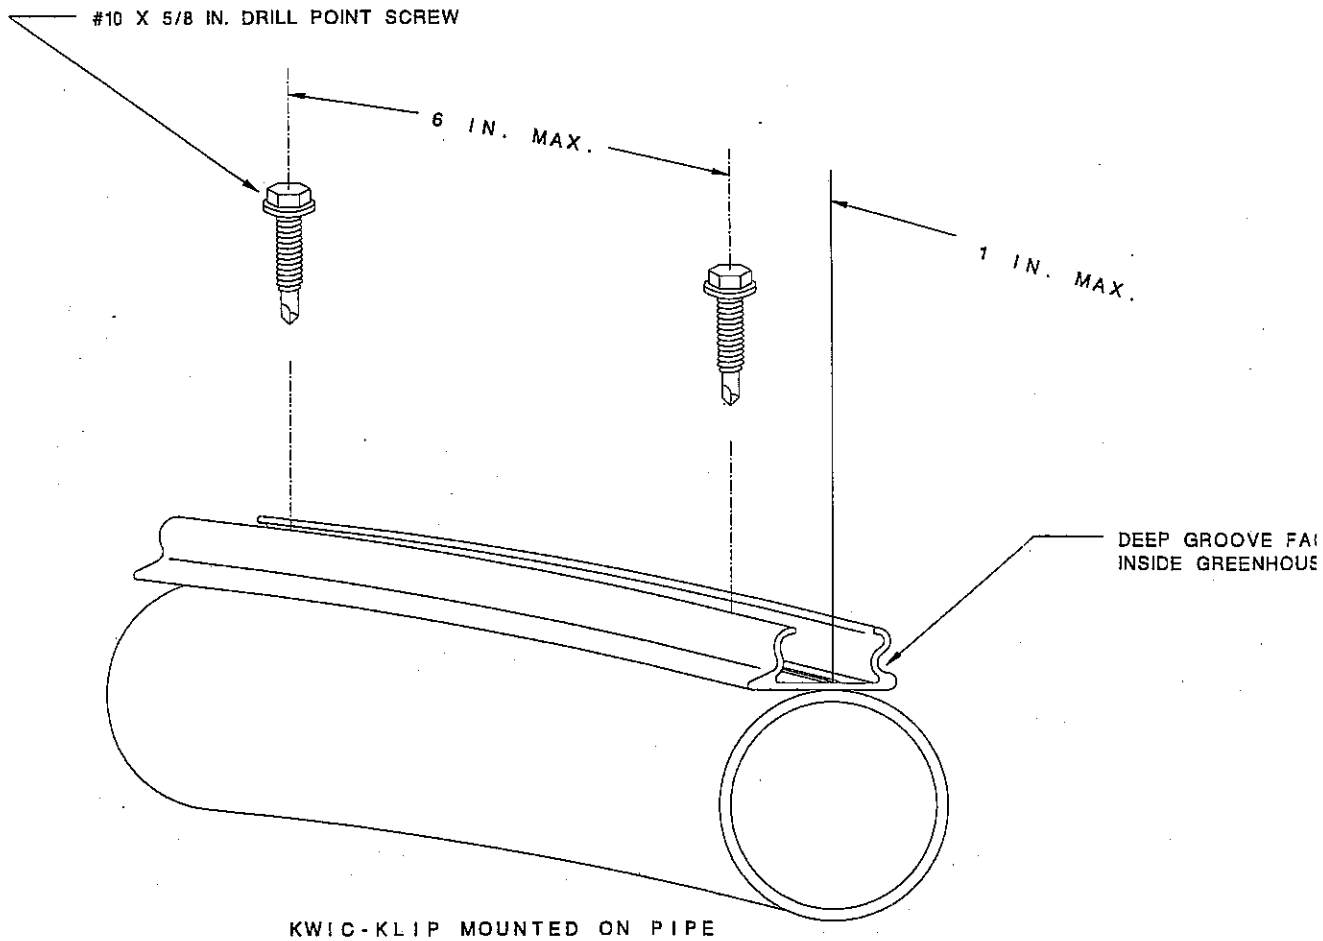

FIG. 6
1. KWIC-KLIP WORKS WELL ON END BOWS OF GREENHOUSE ALSO. FOR THIS PURPOSE, THE TOP CAP MAY BE PURCHASED PREBENT IN 6 INCH LONG PIECES TO FACILITATE ITS INSTALLATION. THE BASE IS INSTALLED ON TOP OF THE BOW (IN OTHER WORDS, WHERE A BIRD WOULD SIT) AND BENT TO CONFORM TO THE BOW SHAPE AS IT IS BEING ATTACHED TO BOW. (SEE FIG. 6)